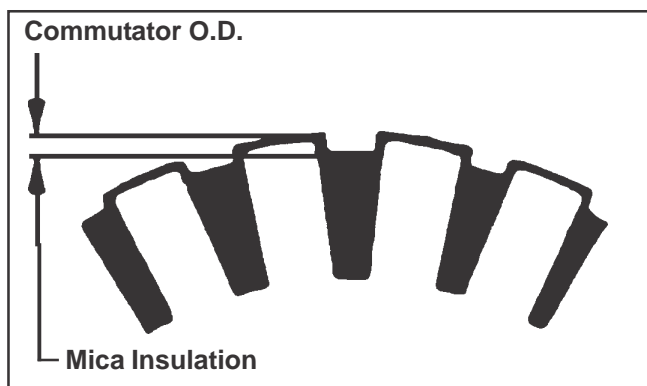

Figure 8-41. Commutator Mica Inspection.
1. Clean and inspect the commutator (outer surface). The mica insulation of the commutator must be lower than the O.D. surface (undercut) to ensure proper operation of the commutator. See Figure 8-41.